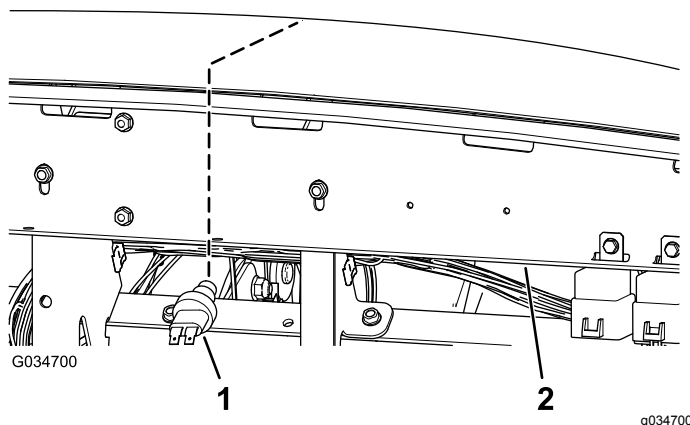

Figure 5
2. Reach under the dash bracket and install the horn switch into the opening (Figure 5).